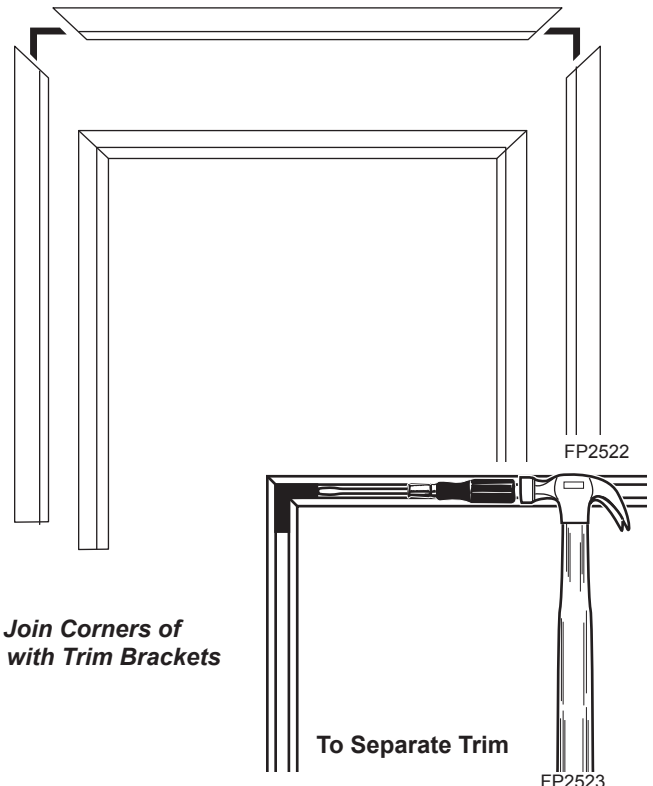

Figure 38 -
1. Remove black trim from protective packaging. Remove four (4) black screws and two (2) 90° angle trim brackets from owner's manual packaging.
2. Lay trim on floor and match corners of side trims to top trim. *Figure 38*
3. Use one 90° angle trim bracket to join the corner of one piece of side trim to the corner of the top trim piece. *Figure 38*. A rubber hammer or handle of a claw hammer will help secure the corners.